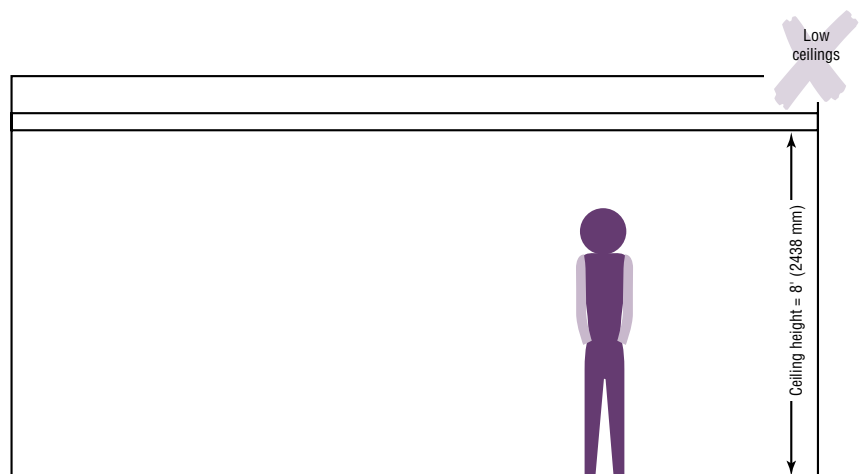

FIGURE 22
- If your structural ceiling deck is less than 10' (3048 mm) above the floor (figure 22), you will need to start looking for a new space. Ceilings this low make proper diffusion and the resulting ensemble impossible to achieve.